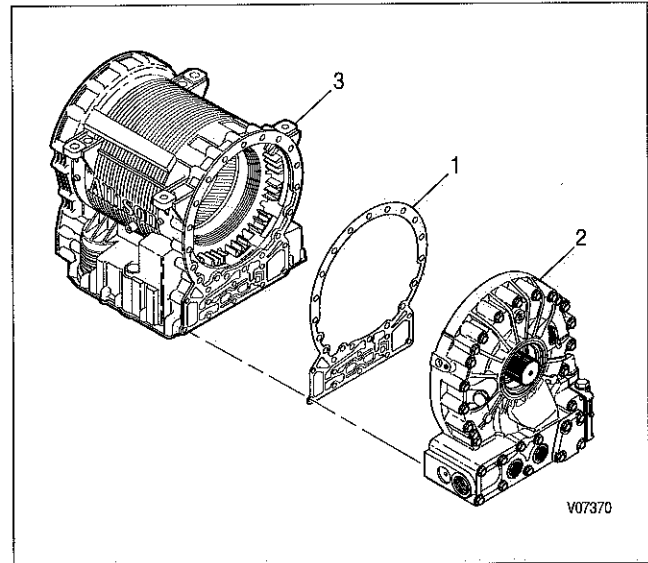

Figure 4-9. Retarder Module Removal
### k. Removal of Retarder Module (Units Built Before 1/98) (Foldout 13,A and Figure 4-9)
1. Remove twelve bolts 2 (Foldout 13,A), six bolts 3, and seven bolts 4, that secure retarder module 2 (Figure 4-9) to main housing 3. If used, remove rear support bracket.
### l. Removal of Retarder Module (Units Built Beginning 1/98; Foldout 13,B and Figure 4-9 and Units Starting With S/N 6510262246; Foldout 13,C)
1. Remove fourteen bolts 2 (Foldout 13,B), two bolts 34, four bolts 3, seven bolts 4, and one bolt 59 that secure retarder module 2 (Figure 4-9) to main housing 3.